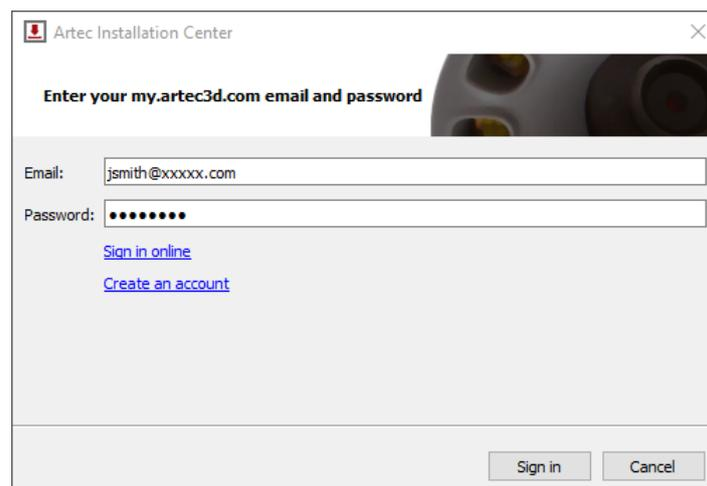

Figure 18: Authentication for Artec Installation Center
2. After downloading, open the folder that contains the executable and run it. Follow the instructions on the installation screens. Once Artec Installation Center is installed, you will see a dialog requesting your email address and password. Use your *my.artec3d* account to log in as *Figure 18* shows.
If you have yet to install Artec Installation Center, a login dialog will appear, as Figure 18 shows. If you are not connected to the Internet, consult Offline Activation regarding offline activation of Artec Studio.